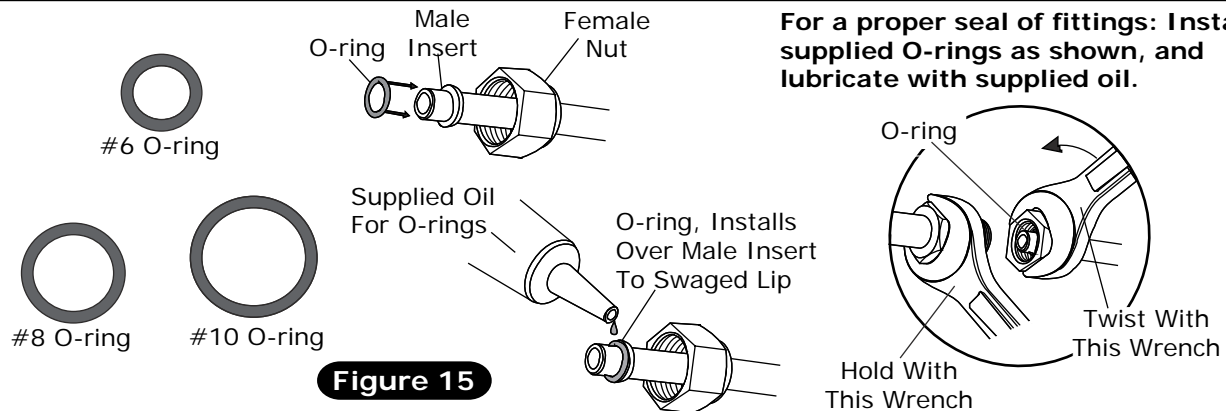
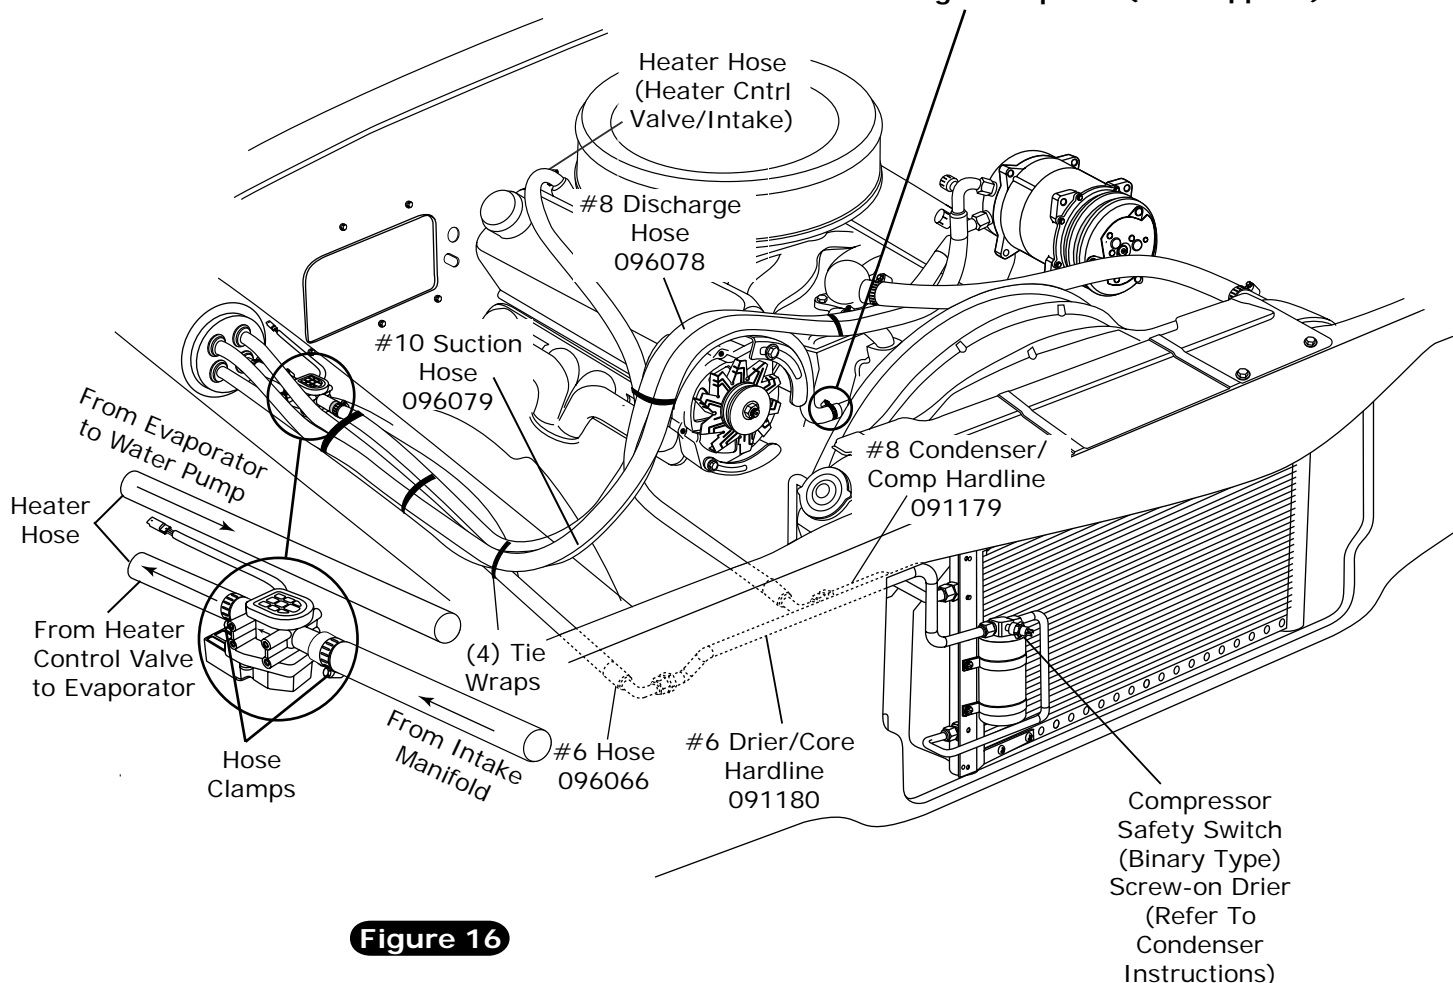

Figure 15
Figure 16
1. On a workbench, install (2) heater fittings with properly lubricated O-rings (See Figure 15, Page 14, and Figure 11, Page 12).
3. Lay evaporator sub case on passenger side floorboard. Install A/C & heater hose on evaporator as shown in Figure 15, Page 14, and Figure 12, Page 13.
1. Locate the #8 compressor A/C hose. Lubricate (2) #8 O-rings (See Figure 15, above) and connect the 45° female fitting with R134a service port to the #8 discharge port on the compressor. Route the 90° female fitting to the #8 condenser hardline coming through the core support. See Figure 16, Page 15. Tighten each fitting connection as shown in Figure 15, above.
2. Locate the #10 compressor A/C hose. Lubricate (2) #10 O-rings (See Figure 15, above) and connect the #10 135° female fitting with R134a service port to the #10 suction port on the compressor. Route the 90° female fitting to the #10 evaporator (See Figure 12, Page 13, and Figure 16, Page 15). Tighten each fitting connection as shown in Figure 15, above.
3. Locate the #6 evaporator A/C hose. Lubricate (2) #6 O-rings (See Figure 15, above) and connect the 90° female fitting to the #6 hardline coming through the core support from the drier. Route the 90° female fitting to the #6 evaporator (See Figure 12, Page 13, and Figure 16, Page 15). Tighten each fitting connection as shown in Figure 15, above.
1. Route a piece of heater hose from the water pump to the top heater fitting of heater core as shown in Figure 12, Page 13, and Figure 16, below. Secure using hose clamps. **NOTE: OEM water pump outlet is 3/4". A 3/4" x 5/8" reducer fitting is required (not supplied).**
2. Route a piece of heater hose from the intake to the bottom heater fitting of heater core as shown in Figure 12, Page 13, and Figure 16, below. Install heater control valve in line with intake manifold (pressure side) heater hose, and secure using hose clamps as shown in Figure 16, below. **NOTE: Proper flow direction.**